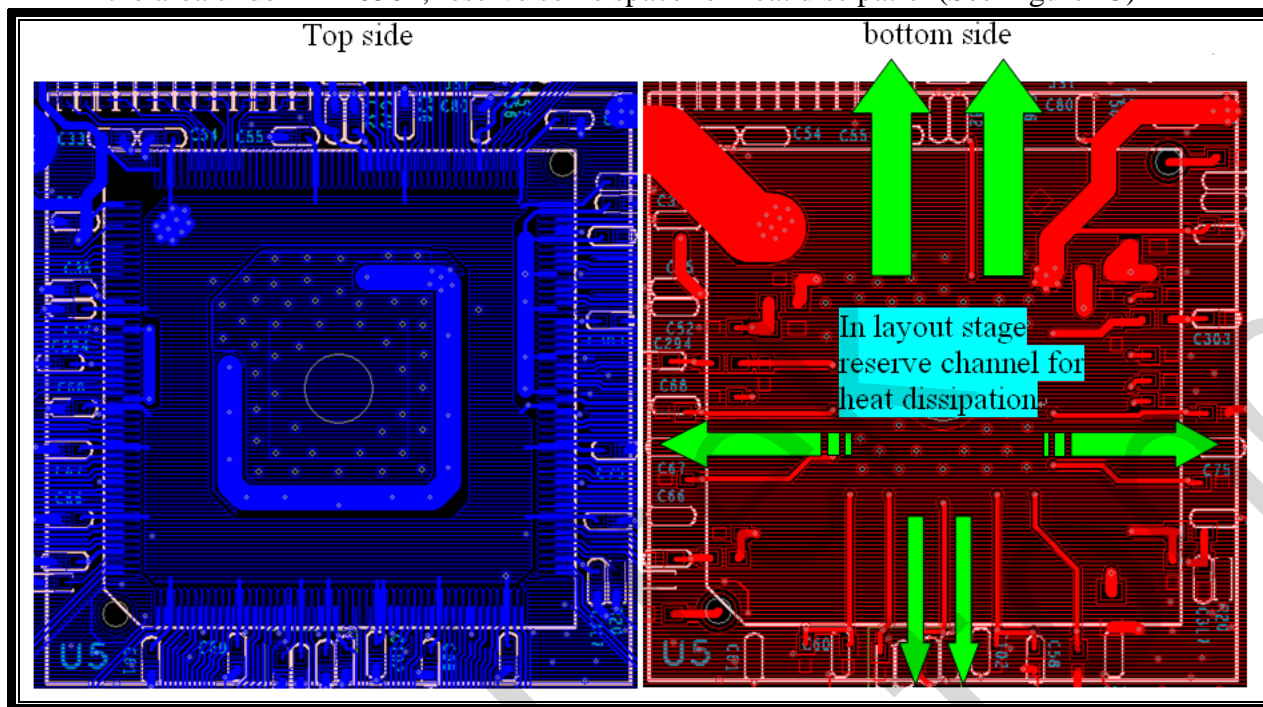

Figure 23. Better way for heat dissipation in RTL8382M/L
- In the area under RTL838x, reserve some space for heat dissipation(See Figure 23)